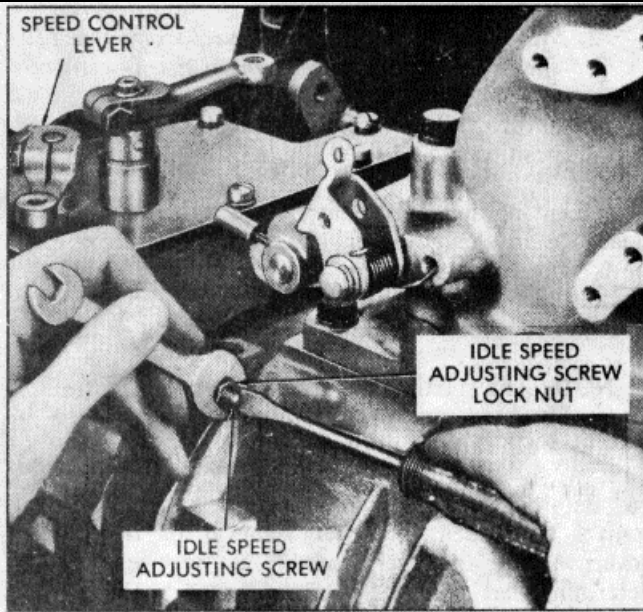

Fig. 8. - Adjusting Engine Idle Speed
1. With the engine running, at normal operating temperature and with the buffer screw backed out to avoid contact with the differential lever, turn the idle speed adjusting screw until the engine operates at approximately 15 rpm below the recommended idle speed (Fig. 8). The recommended idle speed is 400-450 rpm, but may vary with special engine applications.